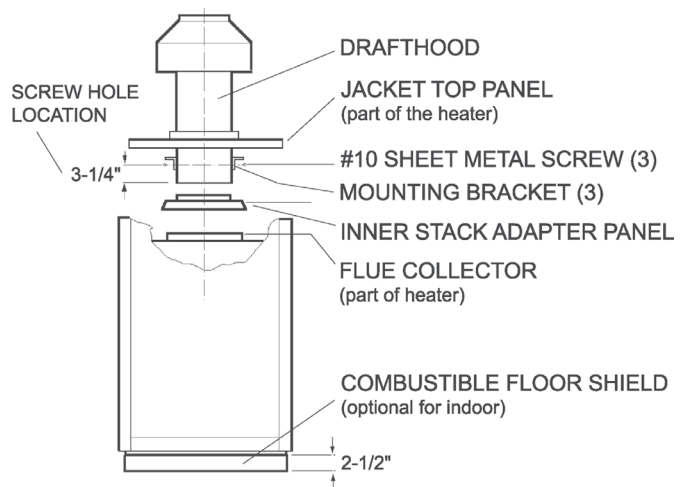

Figure 8. Indoor Installation for Models 0181-0401 and 0182-0400
1. Remove the louvered jacket top by removing four (4) #10 flathead screws.
6. Attach the three (3) mounting brackets to the stack using the screws provided and the holes that are pre-drilled in the stack. **Make sure the brackets are positioned with the flange near the top side of the stack. See Figure 8. Caution must be taken not to over tighten and strip the screw threads.**
7. Turn the assembled stack and jacket top, right side up. The jacket top will be trapped between the brackets and the top of the stack. Place the stack over the inner stack adapter panel flanged hole and lower the louvered jacket top panel back into its original position. Reinstall the four (4) #10 flathead screws removed in step 1 above.